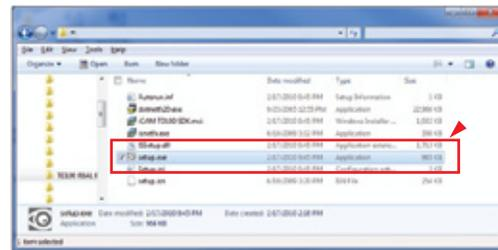

Fig.1
3. Select the Setup.exe Setup Launcher icon as shown in Fig.1.